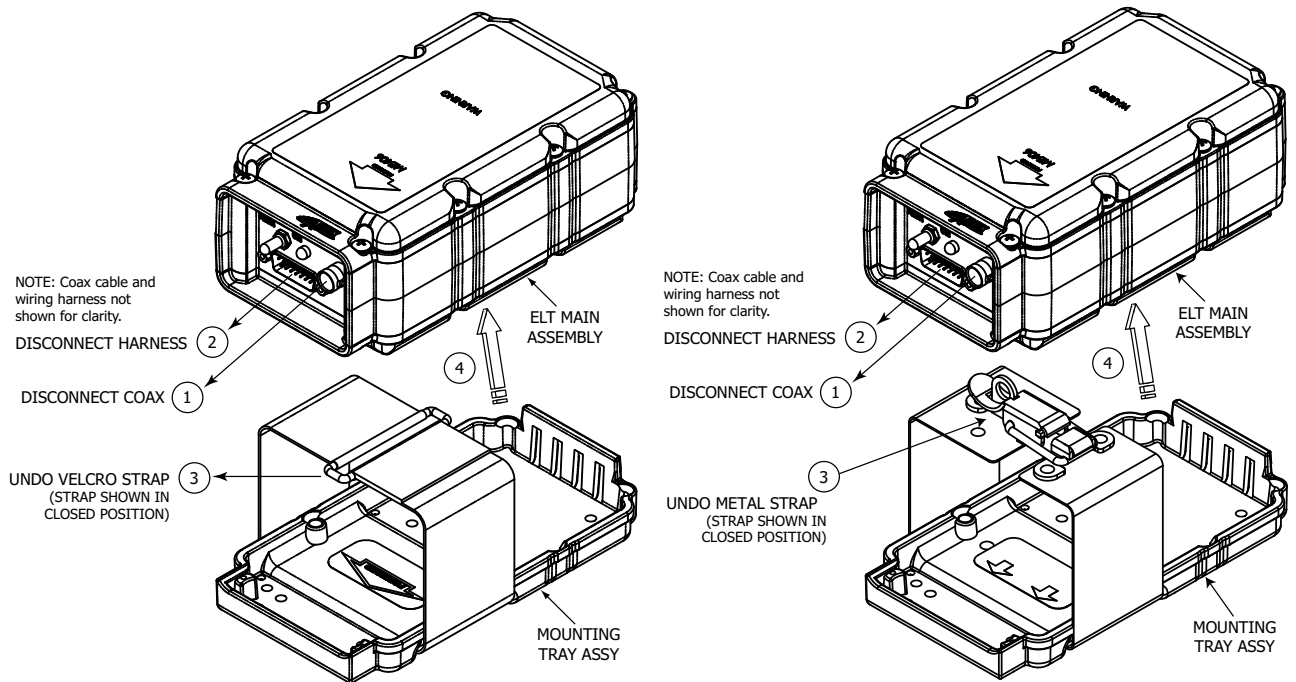

Figure 11 ELT Removal Sequence
- (1) See Figure 11 ELT Removal Sequence.